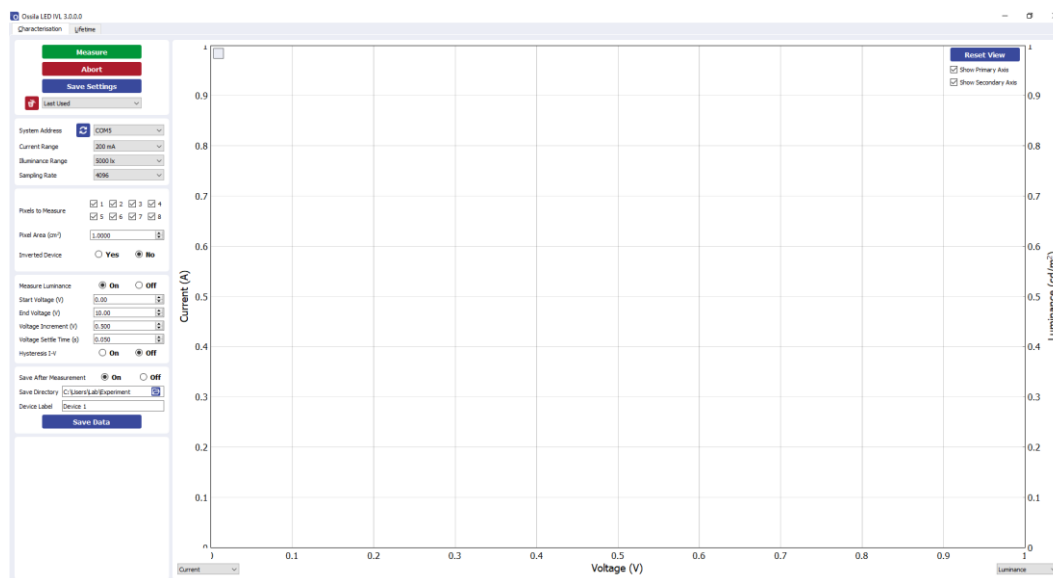

Figure 9.1. Ossila LED IVL software: Characterisation tab.
1. Start the Ossila LED IVL software. The window shown in **Figure 9.1** will open.
There are several settings in the program which must be filled in before taking a measurement. These are found in the column on the left of the window, as shown in **Figure 9.1**.